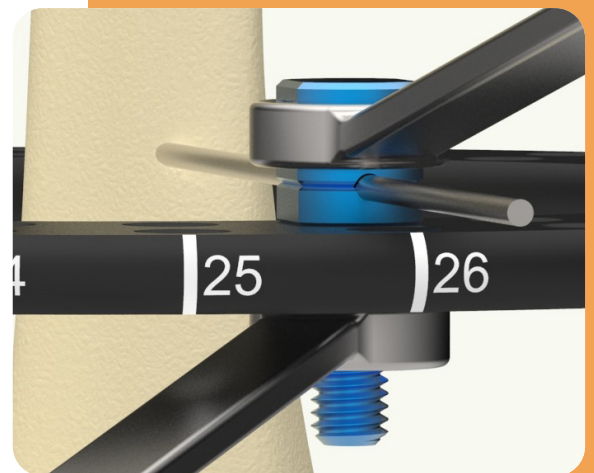

Fig. 18 - Tighten All Connections
- 20 All nuts and bolts should be fully tightened with the 10mm Hex Bolt Wrench. The 13mm Hex Bolt Wrench is available for counter-torque on Cubes and Pin Clamps (Fig. 18).